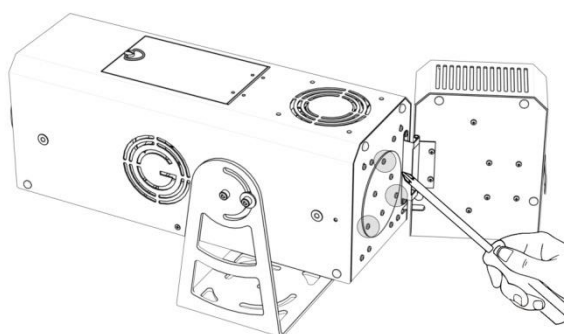

Fig. 4
2. Remove the three screws that anchor the holder cover as shown in Figure 4.